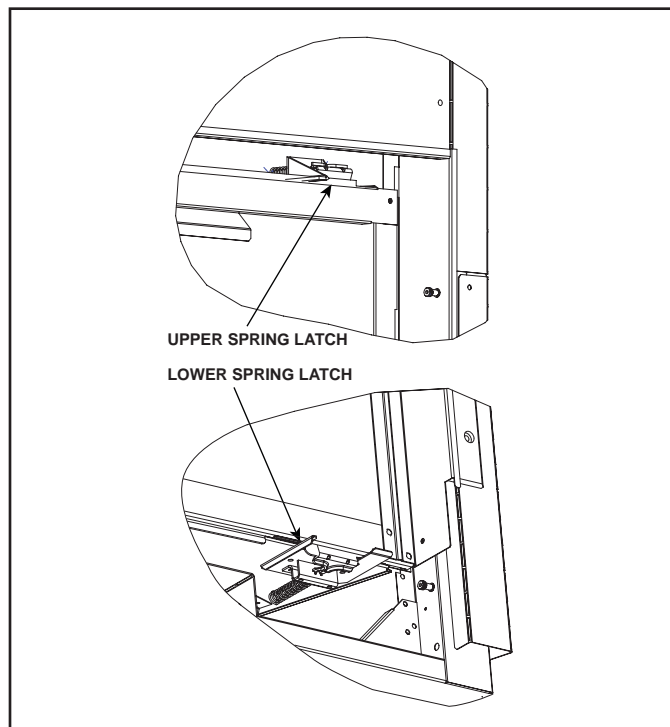

Figure 14.1 Fixed Glass Assembly
3. Use both index fingers to release spring latches. See Figure 14.1.
4. Put pressure on the glass as you allow the glass assembly to drop into the two lower tabs. See Figure 14.1.